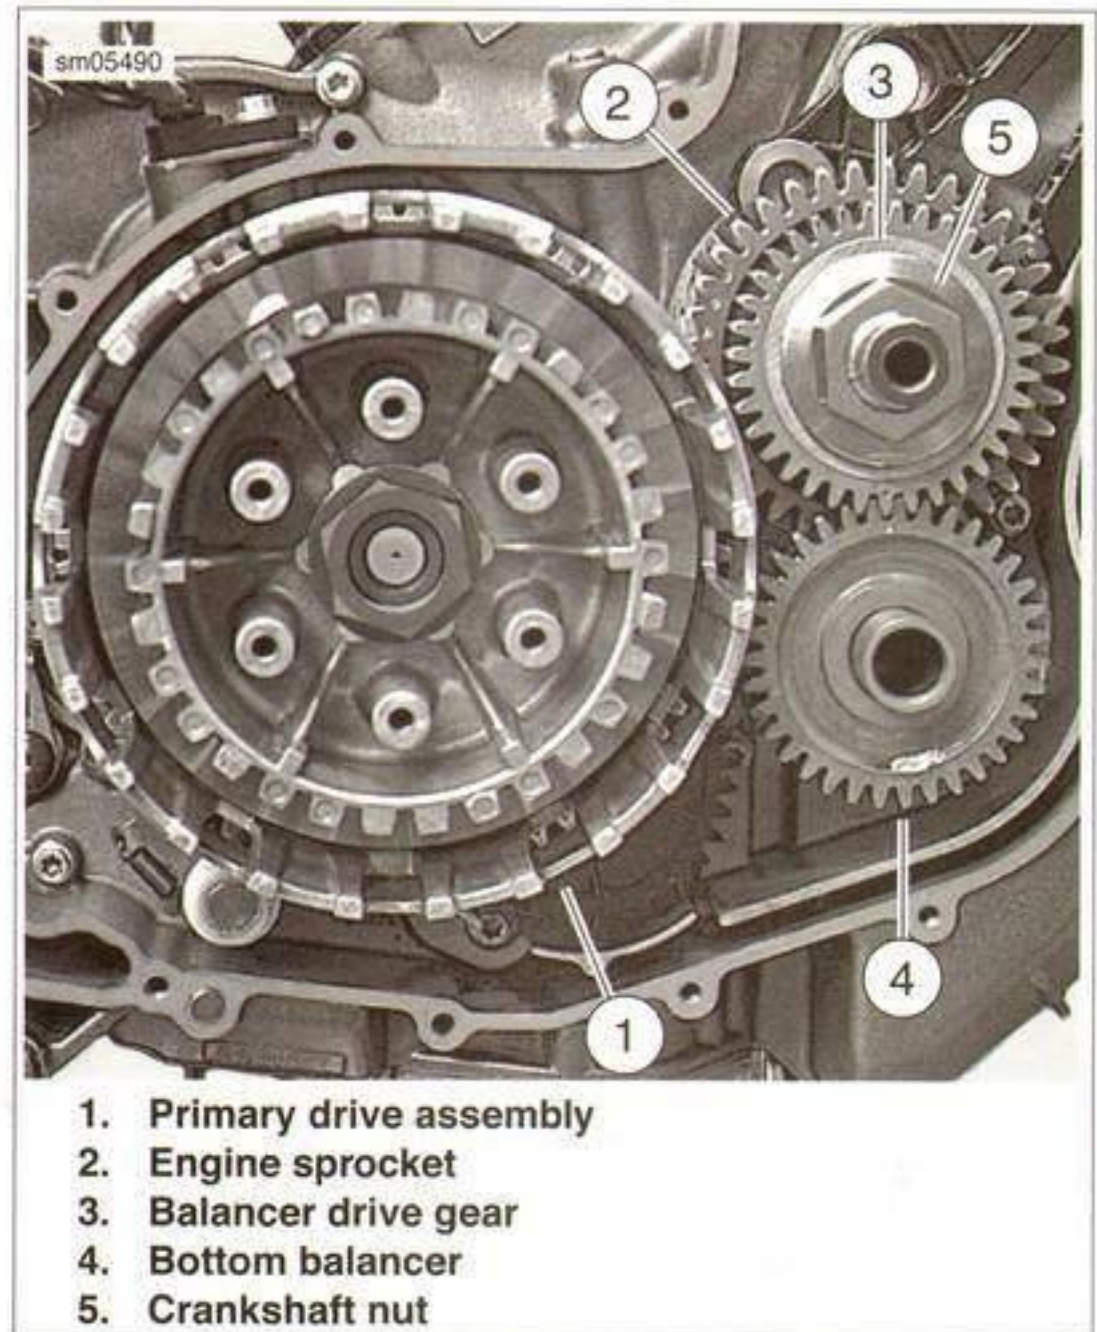

Figure 6-61. Primary Drive
See Figure 6-61. The primary drive assembly (1) can be removed without removing the engine sprocket (2). The engine sprocket is located behind and pinned to the drive gear (3).